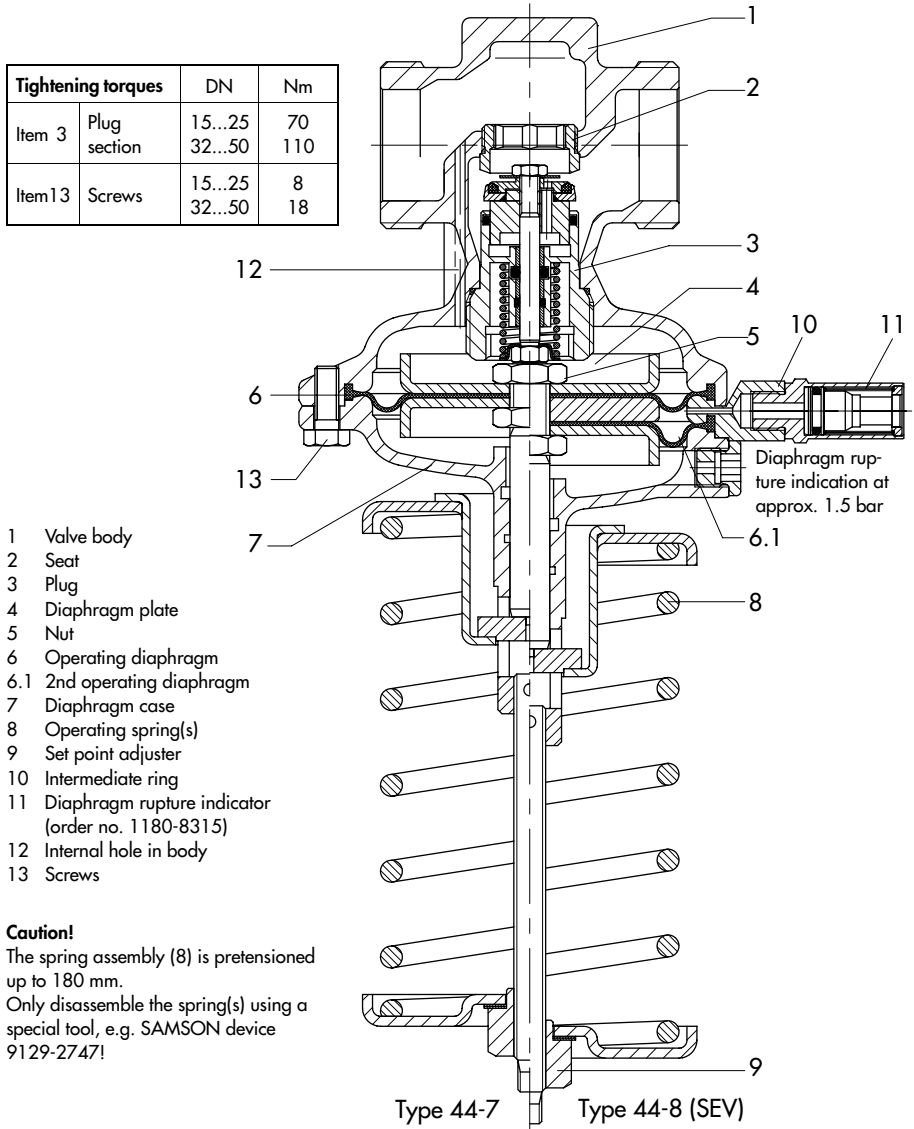

Fig. 2 · Sectional drawing
4. For reassembly proceed in reverse order. Observe tightening torques as specified in the table in Fig. 2.
3. Remove screws (13) and the actuator.
4. Unscrew nut (5) and lift off the diaphragm plate (4). For Type 44-8, additionally remove the intermediate ring (10).
6. For reassembly proceed in reverse order. Observe tightening torques as specified in the table in Fig. 2.